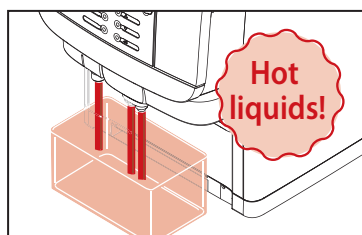

Fig.11
11. Allow the Milk Master Pro and coffee dispenser to complete the cleaning function (See Fig.11).
11. Slide the tank back into the fridge, leave the fridge door open during cleaning to prevent steam build-up in the cooling area (See Fig.11).
11. Add one RINZA tablet to the cleaning container (See Fig.11).
10. Add one RINZA tablet to the cleaning container (See Fig.11).